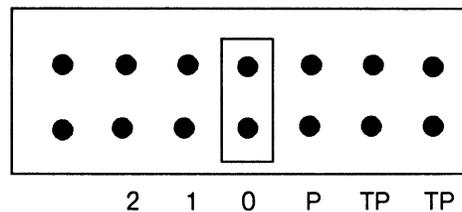

Figure 7-7. Selecting a Second 170MB Disk Drive as Drive 1, First Configuration
2. Locate the jumper select card on the lower-left, rear side of the disk drive you are installing (CDC). To make this drive 1, jumper position 0 (see Figures 7-7 and 7-8). To add other disk drives, use the jumpering configurations in Table 7-1.